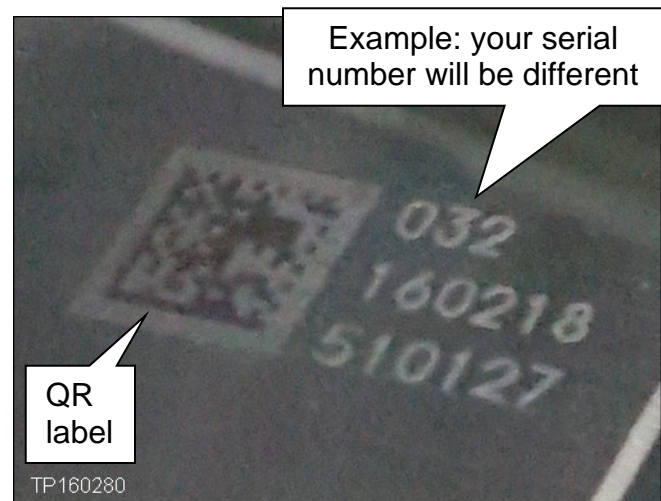

Figure 2
- If there is NO serial number (the area shown in Figure 2 is blank) then the ABS control unit is OK; no further action is needed. Refer to the Claims Information and submit a claim for inspection - **OK Condition**.
- In the **example** in Figure 2, the serial number is **032160218510127** (this is an example, your serial number will be different).